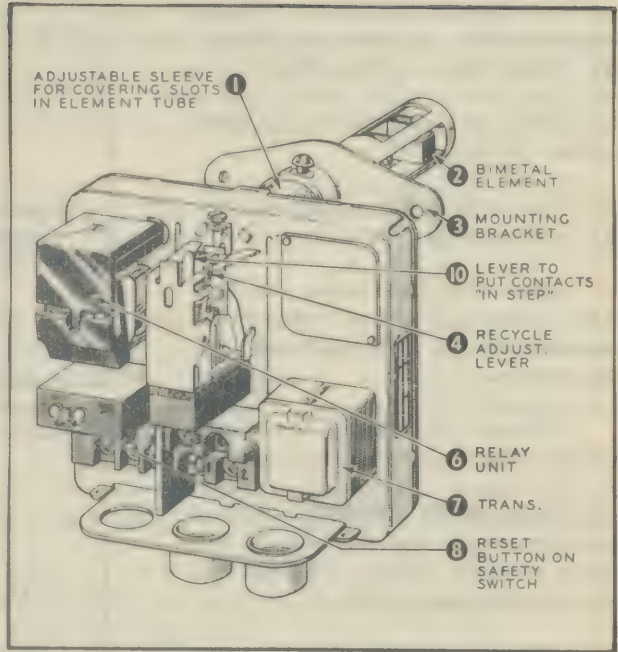
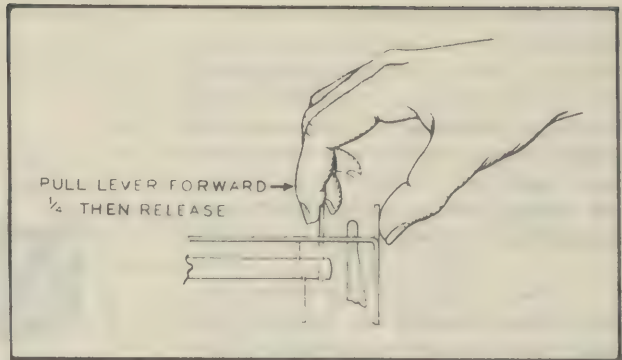
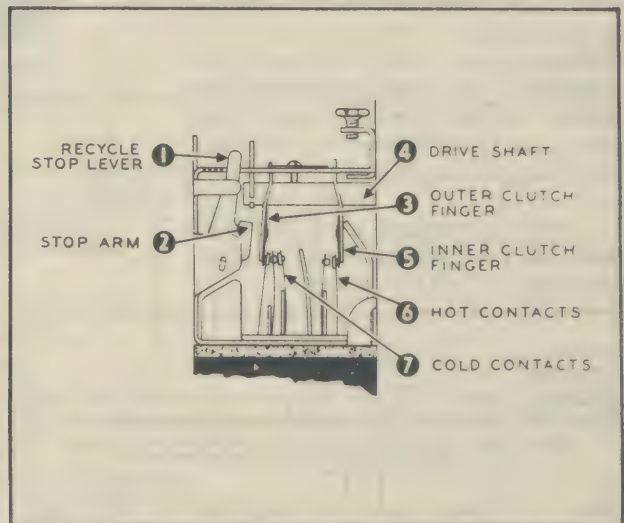

Fig. 4—Type RA116A Protectorelay with cover removed.
Fig. 7—Method of placing contacts "in step."
Fig. 8—Recycling time adjustment.
**TO START BURNER** - Place Protectorelay Contacts in Starting Position. (See Fig. 7).
Depress and release reset button (8-Fig. 4).
**SCAVENGER TIMING** - Allow the burner to run and watch the outer clutch finger (3-Fig. 8) as it moves outward.
When the flame is extinguished hot contacts (6-Fig. 8) should open after a slight drop in stack temperature and stop the burner.
The burner should remain off until the stack cools enough so that the "cold contacts" (7-Fig. 8) make.
**IGNITION FAILURE** - If combustion fails to take place on startup, hot contact "8" will not make - thus current continues to flow to the safety switch heater and In approximately 90 seconds the safety switch contact "5" will open, stopping burner. The reset button (8-Fig. 4) must then be manually depressed before restart is permitted.
**FLAME FAILURE** - If a flame failure occurs when burner is running normally, hot contact "8" will open on the initial drop in stack temperature. The relay will immediately drop out stopping the burner. At the expiration of the scavenger period (normally about one minute), cold contacts "6" and "7" will make, restarting the burner. If combustion takes place, burner will continue to run - but if oil fails to ignite, a safety shutdown will occur in approximately 90 seconds. The reset button (8-Fig. 4) must then be manually depressed before burner can restart.
*If the Protectorelay Fails to Operate* after the line switch is closed, and with the high limit control and thermostat calling for heat, depress and release reset button (8-Fig. 4). Burner motor should start immediately. If burner does not start, place the Protectorelay contacts in the starting position - See Fig. 7. Burner motor should immediately start. If combustion does not take place open the line switch. Check power supply, wiring, ignition and oil supply.
**NOTE** - If it is necessary to place the contacts "in step" (Fig. 7) in order to start the burner, refer to heading "TESTING AND ADJUSTING" and carefully check the complete operating cycle as outlined.
If the burner motor does not start when the contacts are placed "in step" (Fig. 7), place a jumper across the red, white and blue terminals of the Protectorelay. If the relay does not pull in (with current "on" and with cold contacts (7-Fig.8) closed), the Protectorelay is defective and should be replaced. If the relay does pull in, remove the jumper and check all connections between the thermostat and Protectorelay and examine the contacts of the thermostat (and low voltage limit control if used) to make sure they are closed. Finally, check the low voltage cable if necessary.